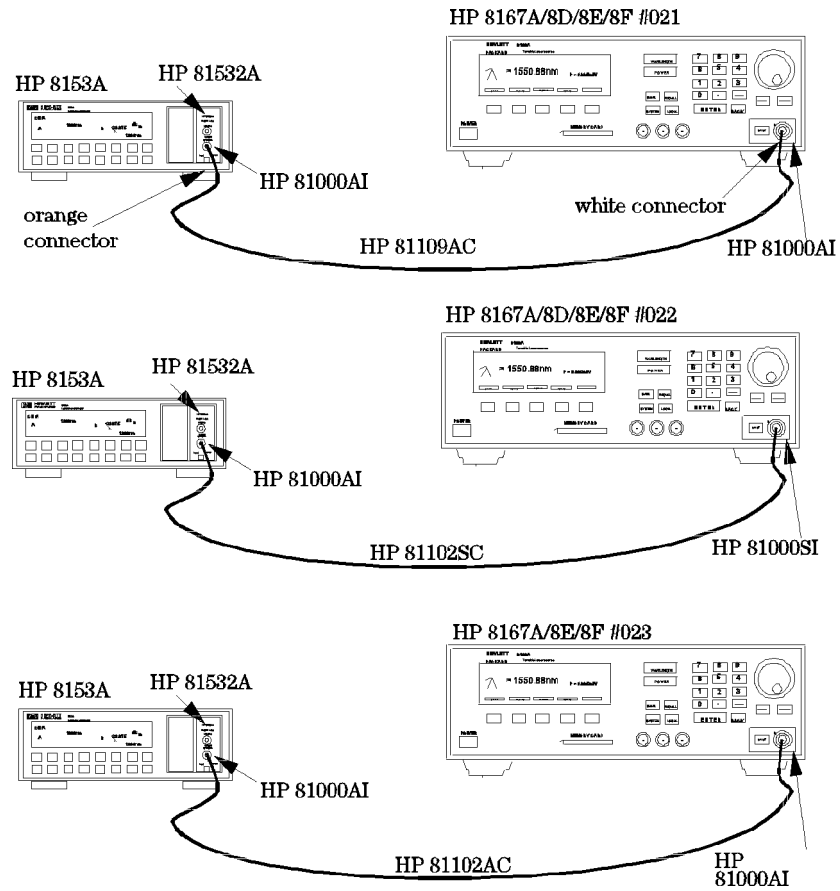

Figure D-4.
1. Set up the equipment as shown in Figure D-4 (HP 8167A, 8168D,E,F).